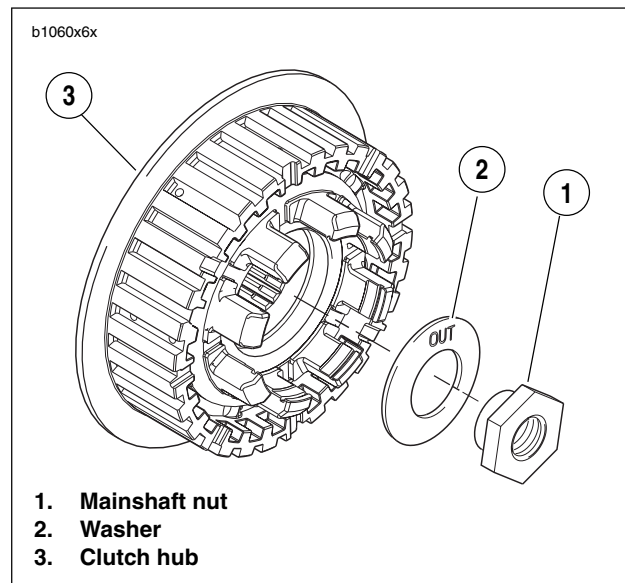

Figure 6-22. Mainshaft Nut and Washer
See Figure 6-22. Mainshaft nut has left-hand threads. To prevent damage, turn nut clockwise to loosen and remove from mainshaft.
6. See Figure 6-22. Remove mainshaft nut and washer.